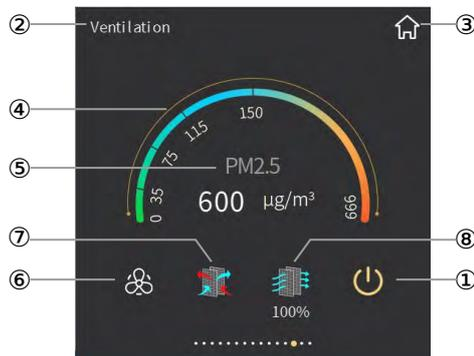
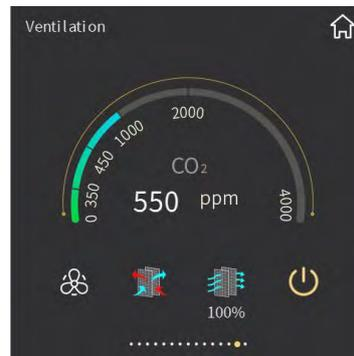

Fig.2.6.1
Fig.2.6.2
Only when auto fan speed control of ventilation system is enable would this interface display, as shown in Fig. 2.6.1 and Fig. 2.6.2.
PM2.5 concentration shown as Fig. 2.6.1, according to the value received from the bus, range 0~999ug/m3; if the data exceed 999ug/m3,then the interface will display 999ug/m3.
CO2 concentration as shown in Fig.2.6.2, according to the value received from the bus, range 0~4000ppm; if the data exceed 4000ppm, then the interface will display 4000ppm.
There is up to 4 options for fan speed mode: Auto, Low, Medium and High. When fan speed auto control is enable, auto fan speed adjustment will be displayed on the interface, as shown in Fig. 2.6.1 and Fig. 2.6.2. Whether fan speed auto control is enable or not is configured through parameter configuration.
- ⑦ This is the heat recovery icon, used to turn on or off heat recovery function;
Whether heat recovery function of ventilation system is enable or not is configured through parameter configuration. When disable, there will be no display of heat recovery function on the interface as shown in Fig. 2.6.1; when enable, heat recovery function is turned on by default when ventilation system is ON, and the heat recovery function can be turned on or off by touching icon ⑦. The icon on indicates that the heat recovery is on; the icon off indicates that the heat recovery is off. In addition, heat recovery function can be turned on or off through the bus. After disable heat recovery, any touching of icon ⑦ will respond.
Whether the filter timer counter function is enable or not is configured through parameter configuration. When disable, there will be no display of filter timer counter function on the interface as shown in Fig.2.6.1; when enable, icon Ⓢ will be colorful after ventilation system ON, the remaining evaluation value will be displayed next to it. The value will be updated according to the use time, which will be updated through the bus.